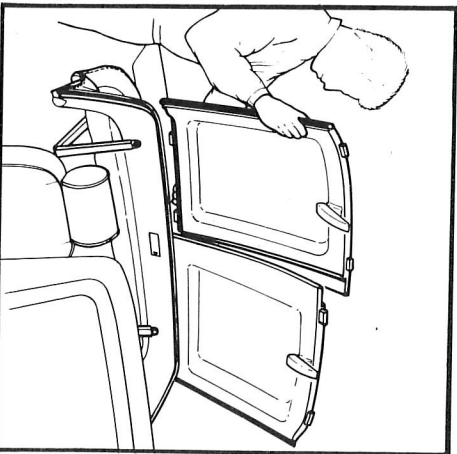

Fig. 23 Erecting Drivers Roof Panel. Page 17
e) Take the drivers side roof panel out of its protective cover. Offer the drivers side panel up to the rear header in an upright position. Ensure that the central overlap on both roof panels are positioned that drivers side is on top of the passenger side. See Fig. 23. Position the locating lugs on the roof panel into the recessed lugs in the rear header. Both panels can now be left in an upright position without support.